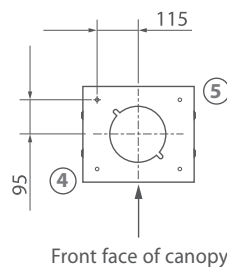

Fig.3 Ceiling bracket as template
- 3 Using the ceiling bracket as a template (Fig.3), mark the four holes on the ceiling. Ensure that the ceiling bracket front edge is parallel with the bench top and that the plumb line mark is central to the four mounting screw holes.